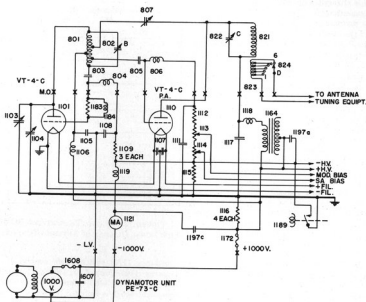

FIGURE 11. RADIO TRANSMITTER BC-375-E, FUNCTIONAL DIAGRAM OF RADIO-FREQUENCY AND HIGH-VOLTAGE CIRCUITS
The radio-frequency circuit of the radio transmitter (see Figure 11) is of the conventional master-oscillator and power-amplifier type. The audio-frequency circuit consists of a speech amplifier and a Class B audio-frequency modulator which applies plate modulation to the Class C radio-frequency power amplifier. When operating on TONE, the speech amplifier is converted into an audio-frequency oscillator which supplies grid excitation at a frequency of approximately 1000 cycles to the modulator tubes.
The master-oscillator circuit is of the "series fed" type, either capacitively or inductively coupled to the power amplifier depending on the tuning unit in use. Assuming that Transmitter Tuning Unit TU-8-B (6200-7700 kc) is in place in the radio transmitter, the radio transmitter circuits will be discussed in detail (see Figure 11).
- It keys the radio transmitter by short-circuiting resistor 1115 (refer to Figure 11).